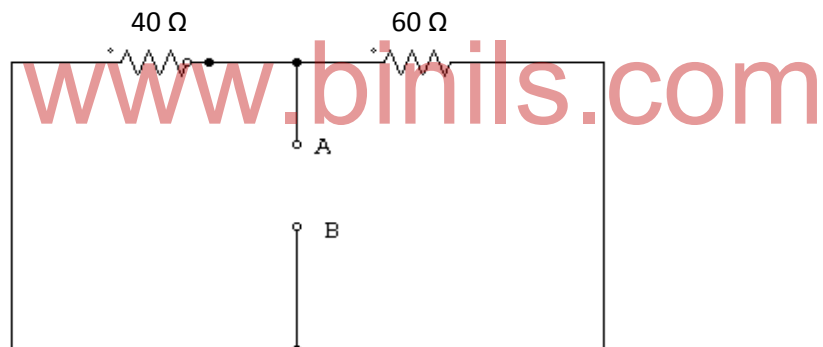

Fig.1.80
**Step 1:** To find Norton's resistance  $R_N$  open the load resistance & voltage source is replaced by short and circuit is redrawn as follows in Fig1.80.